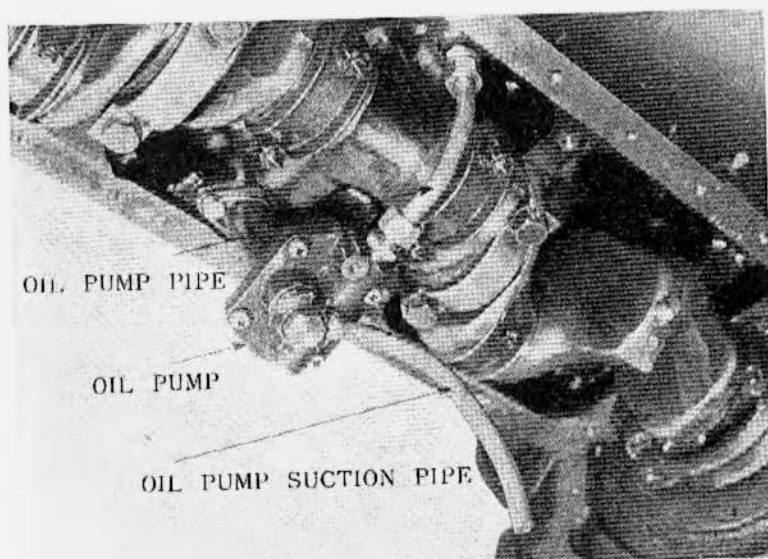

Figure 33 - Oil Pump-Attached
(3) Remove oil pan attaching bolts and place jack under front bumper and raise frame sufficiently to enable oil pan to clear tie rod. Remove oil pan and jack down.
(4) Remove oil pump strainer.
(5) Remove oil pump suction pipe and remove oil pump pipe (Fig. 33).
(6) Remove oil pump from cylinder block and remove pump cover attaching screws to enable removal of cover, gasket, idler gear, and main gear and shaft.
(7) Wash all parts in cleaning solvent and dry by using compressed air if available.